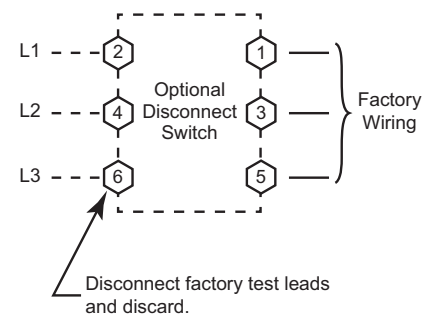

Fig. 17 — Power Wiring Connections
If equipped with optional powered convenience outlet: the power source leads to the convenience outlet's transformer primary are not factory connected. Installer must connect these leads according to required operation of the convenience outlet. If an always-energized convenience outlet operation is desired, connect the source leads to the line side of the unit-mounted disconnect. (Check with local codes to ensure this method is acceptable in your area.) If a de-energize via unit disconnect switch operation of the convenience outlet is desired, connect the source leads to the load side of the unit disconnect. On a unit without a unit-mounted disconnect, connect the source leads to compressor contactor C and indoor fan contactor IFC pressure lugs with unit field power leads (see Fig. 17).
Refer to Table 3 for maximum wire size at connection lugs. Use copper wire only. See Fig. 17 and 18.
The factory-installed option non-fused disconnect (NFD) switch is located in a weatherproof enclosure located under the main control box. The manual switch handle and shaft are shipped in the disconnect enclosure. Assemble the shaft and handle to the switch at this point. Discard the factory test leads (see Fig. 17).
All field wiring must comply with NEC and all local codes. Size wire based on MCA (Minimum Circuit Amps) on the unit informative plate. See Fig. 17 and the unit label diagram for power
2. Install power lines to terminal connections as shown in Fig 17.